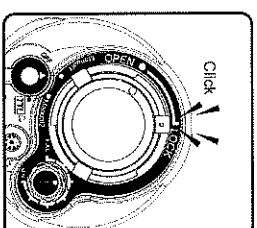

Fig. 3
3. Examine O-ring on battery cap for cuts or debris. Lubricate O-ring lightly. Fit battery cap in place, aligning the "O" marks on part ① and ② to the OPEN position. Turn part ① to the LOCK position; you will hear it click into place. (Fig. 3)